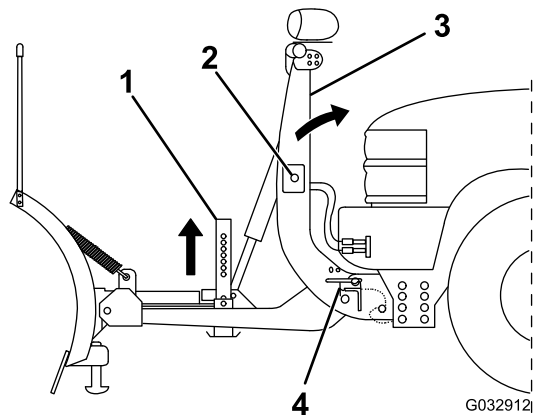

Figure 28
5. Push the SmartHitch2 switch on the side of the coupler tower upward and raise the tower until the coupler spring pins snap in (Figure 28).
7. Pull the kickstand spring pin outward and raise the kickstand, then release the spring pin to secure it (Figure 28).